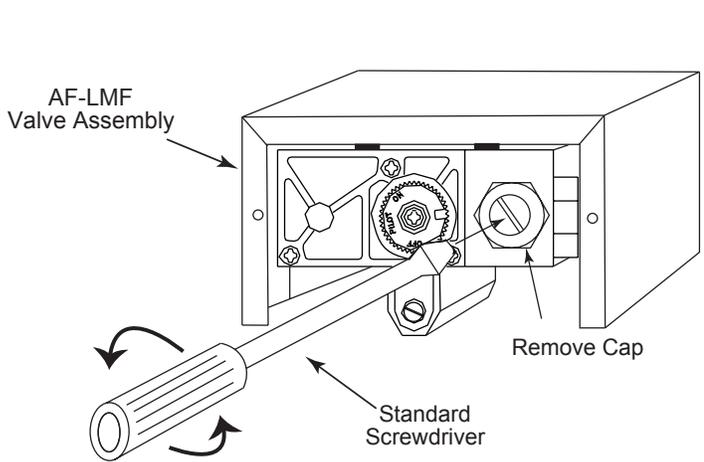

Figure 1. Removing cap.
1. Remove the (2) screws from the front metal faceplate then remove the faceplate on the AF-LMF valve kit and set aside.
2. Using a screwdriver remove the cap. Note Figure 1 (Retain the cap so if the DC step motor is removed the cap can be reinstalled)